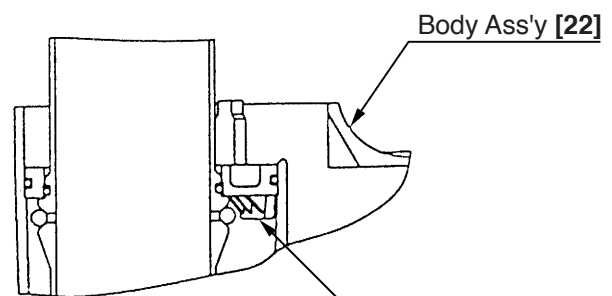

Fig. 11
- Mount the Cylinder Plate [17] to the Cylinder [20] facing the stopper portion of the Cylinder Plate [17] towards the Piston Bumper [21]. Locate the assembled Cylinder [20] so that the stopper portion of the Cylinder Plate [17] is positioned between the ribs of the Body Ass'y [22]. (Figs. 11 and 12)